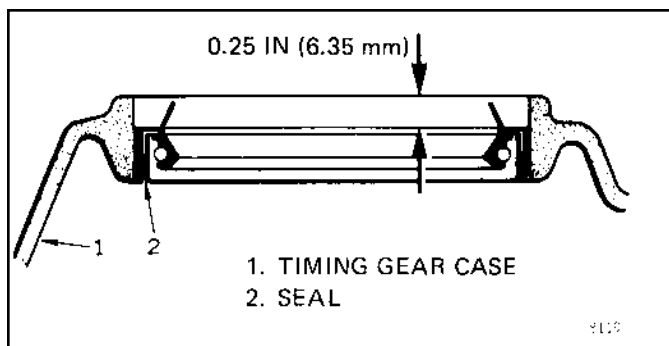

FIGURE 8. CRANKSHAFT SEAL
A. Install a new crankshaft seal into the cover. Make sure it is installed as shown in Figure 8. The outer face of the seal must be 0.25 in (6.35 mm) Below the surface of the cover.